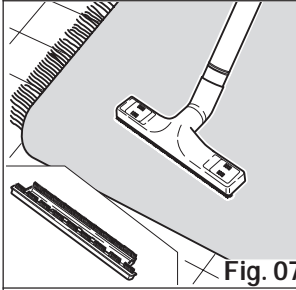

Fig. 07
**CLEANING HEAD WITH FLAT BRUSH FOR CARPETS** (fig. 07) - Use this accessory with the multipurpose nozzle, to clean all mats and carpets.